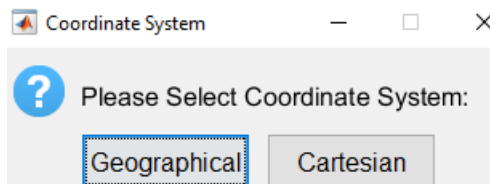
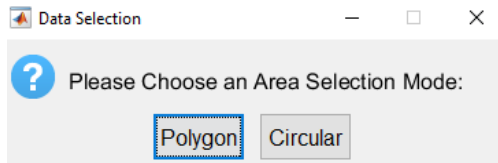

Fig. 9. Select Coordinate System.
Fig. 10 Area Selection Mode.
- **Epicentral Filtering:** Epicentral filtering can be applied in either geographical or Cartesian coordinates, if they are available (Fig. 9). Once the Users clicks on one of the two coordinate systems. Then, the User is provided two additional option, to constrain a polygonal or a circular area (Fig. 10).